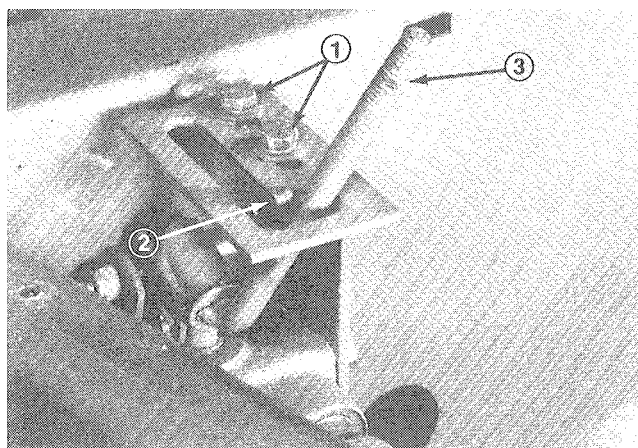

Figure 60
3. Loosen two capscrews on top of the lift lever latch (Fig. 60). Place lever on rounded tip of latch (Fig. 60), and slide latch w/lever forward until stopping resistance is felt. Then tighten capscrews to lock the latch in place. Check for free operation of the lift lever by moving lever from RAISE or TRANSPORT to FLOAT position. Lift lever should just clear rounded position of latch as lever is moved into FLOAT position.